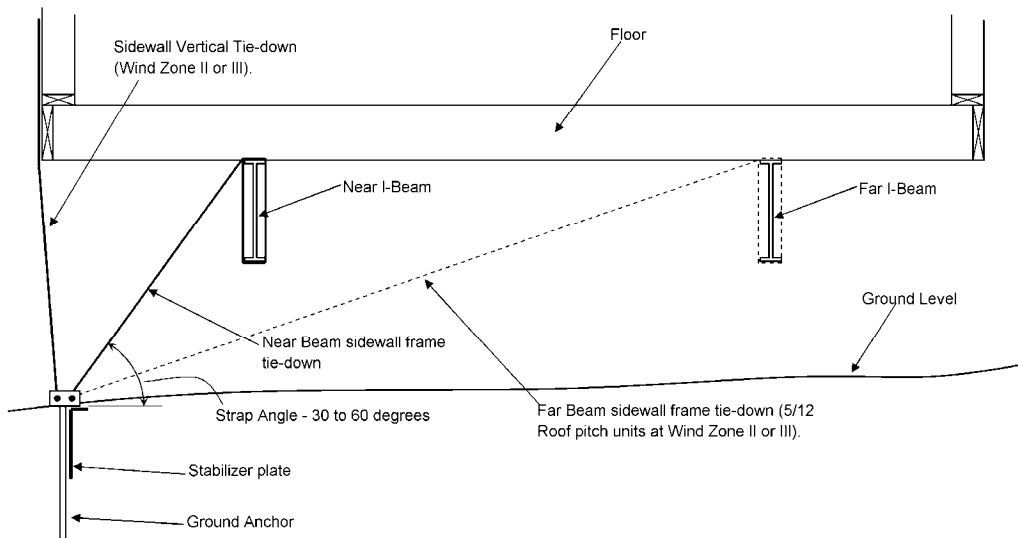

Figure 71. Lateral tie-down configurations
When straps are connected only to the near I-beam, (**Figure 71**) the angle the strap makes with the ground should be between 30 degrees and 60 degrees. Angles greater than 60 degrees may require closer anchor spacing.
- **Near Beam Method.** Connect an anchor strap from the anchor head to the beam closest to the anchor. (Figure 71). In addition for Wind Zones II and III, connect a vertical sidewall strap from the sidewall of the home to the anchor head using a double-headed anchor.
- **Far Beam Method.** Connect an anchor strap from the anchor head to the outside beam. (Figure 71). In addition for Wind Zones II and III, connect a vertical sidewall strap from the sidewall of the home to the anchor head using a double-headed anchor. The far beam method is only required for double wide units at Wind Zone II or III with a 5/12 roof pitch.